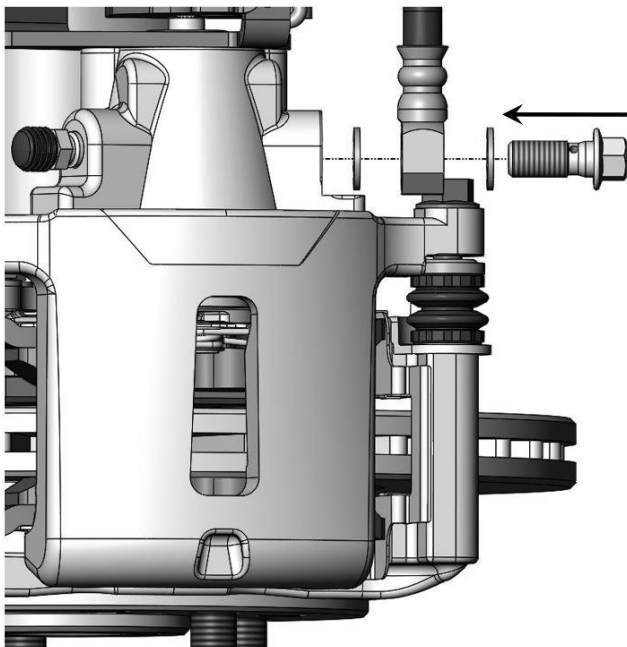
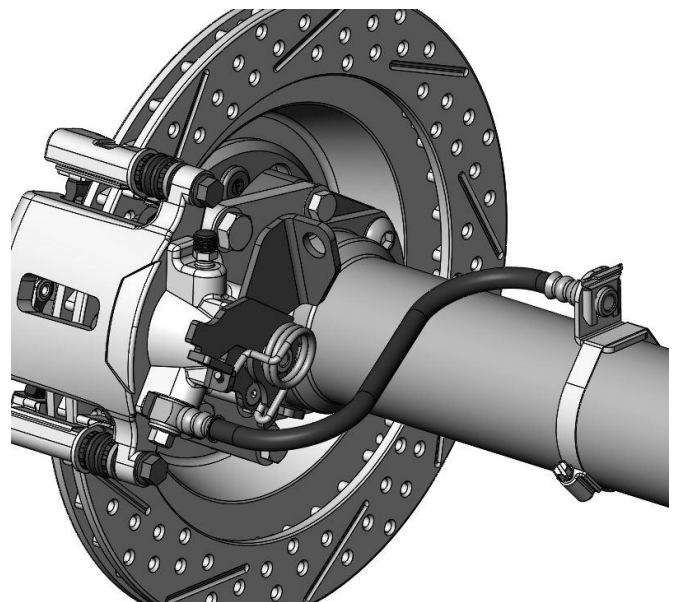

Figure 12a – Brake Hose Attachment to Caliper
Figure 12b – Brake Hose Attached at the Rear Axle Housing
13. Install the flexible brake hose. Attach the brake hose to the caliper using the provided banjo bolt and copper crush washers as shown in Figure 12a below. Fasten the “L” shaped brackets onto the axle housing. This can be done with large worm style clamps like shown below in Figure 12b or by welding or bolting. Once the brackets are installed, use the provided clip and attach the brake hose to the bracket. Attach the hardline to the brake hose. It may be necessary to shorten and re-flare the hardline.